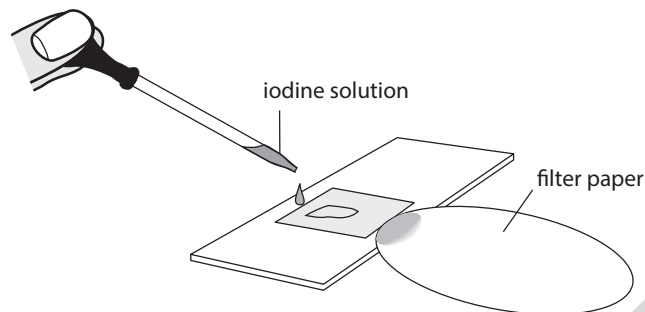

Figure 1.4
- 2** Very carefully place one edge of a piece of a filter paper against the **opposite** side of the coverslip, as shown in Figure 1.4. The water underneath the coverslip will soak into the filter paper, bringing through the iodine solution.